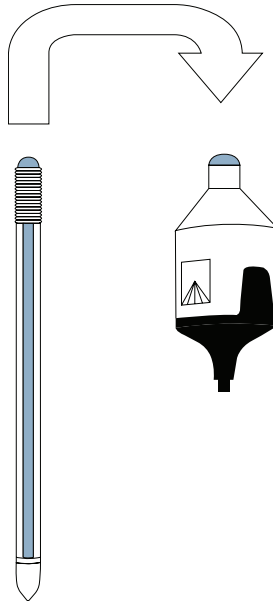

**Figure 4 Refill unit and syringes with TEROS 31 sensors**
14. Place the sensor unit in the notch of the refill unit (Figure 4).